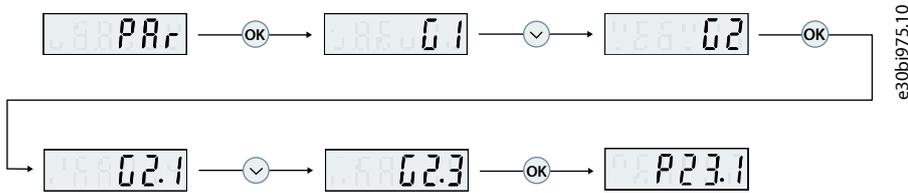

Figure 6: Parameter Navigation
- The *Back* button is used to navigate to a level higher, and the *OK* button to a level lower in the parameter/parameter group screens. Figure 6 shows how to navigate to a parameter. The example considered is *P 2.3.1 Overvoltage Controller Enable*.